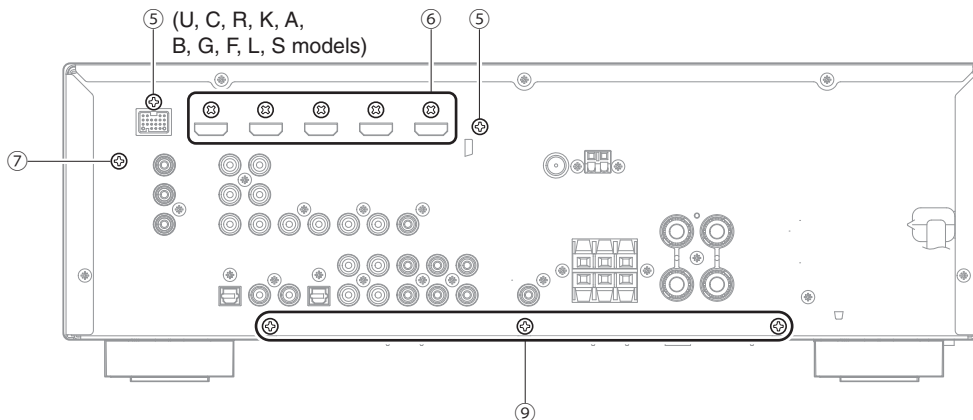

Fig. 3
- Remove 2 screws (U, C, R, K, A, B, G, F, L, S models)/screw (T model) (5) and 5 screws (6). (Fig. 3)
- Remove screw (7) and screw (8). (Fig. 3)
- Remove 3 screws (9). (Fig. 3)